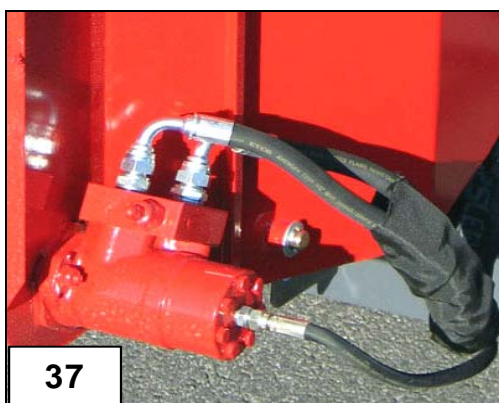

Fig. 37. Conveyor transmission
7.15 Conveyor transmission, Fig. 37